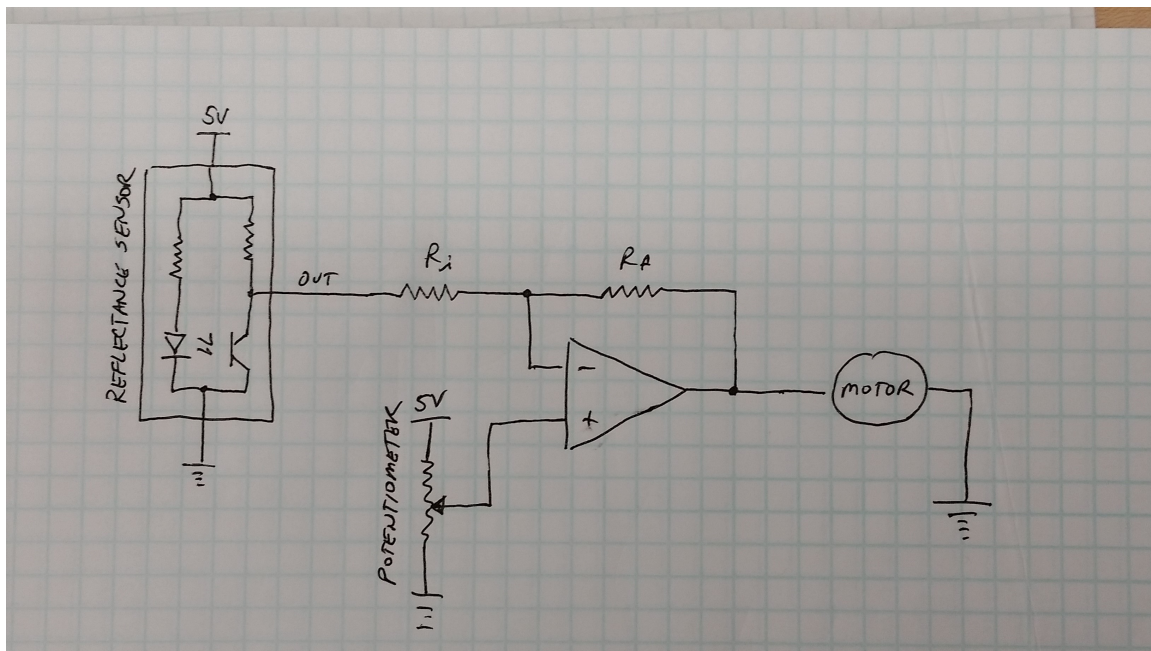

Figure 2: Inverting amplifier for the Braitenberg vehicle. N.b., you’ll use 5V to power your vehicle.
Consider the circuit shown in Figure 2. Here, the op-amp is configured in an inverting configuration, which has two significant advantages:
1. Construct the circuit in Figure 2. **You will need to solder pins to the reflectance sensors and the USB power interface.** You'll want to use fairly large resistors for the R_i and R_f . Why? $1k\Omega$ for each should be sufficient, but it's more important that they are the same.